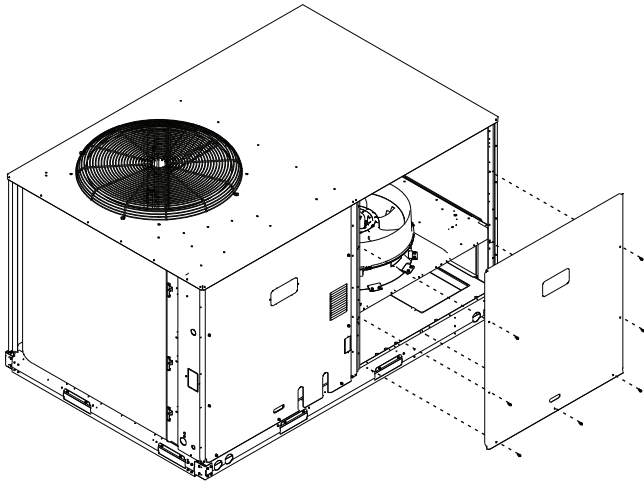

Fig. 35 — Panel Removal for SAT Sensor Install
5. Remove the horizontal supply air panel to provide easier access for installing the SAT sensor. (See Fig. 35.)